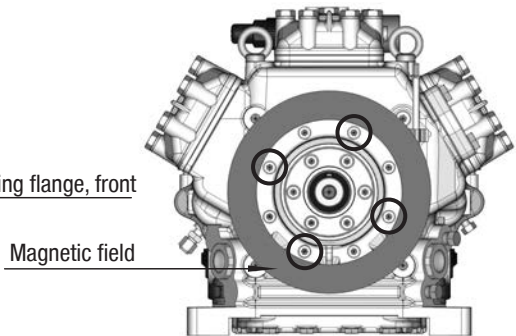

Fig. 12
- Slide the magnetic field to a snug fit and re-attach using the four cheese head screws M8 (Fig. 12). Screw torque = 37 Nm.